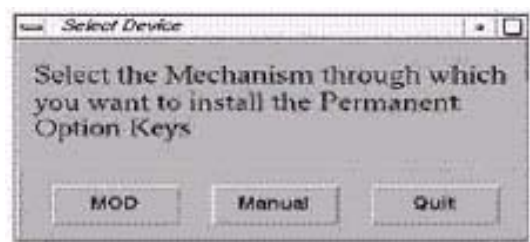

Figure 4-20 Select Device window
- 7.) Click PERMANENT. A Select Device (Figure 4-20) window opens. Select the mechanism through which you want to install the Permanent Option Keys.
Note: The Select Device illustration in Figure 4-20 is outdated — the new window displays selections for MEDIA, Manual, and Quit. Screen requires an update.